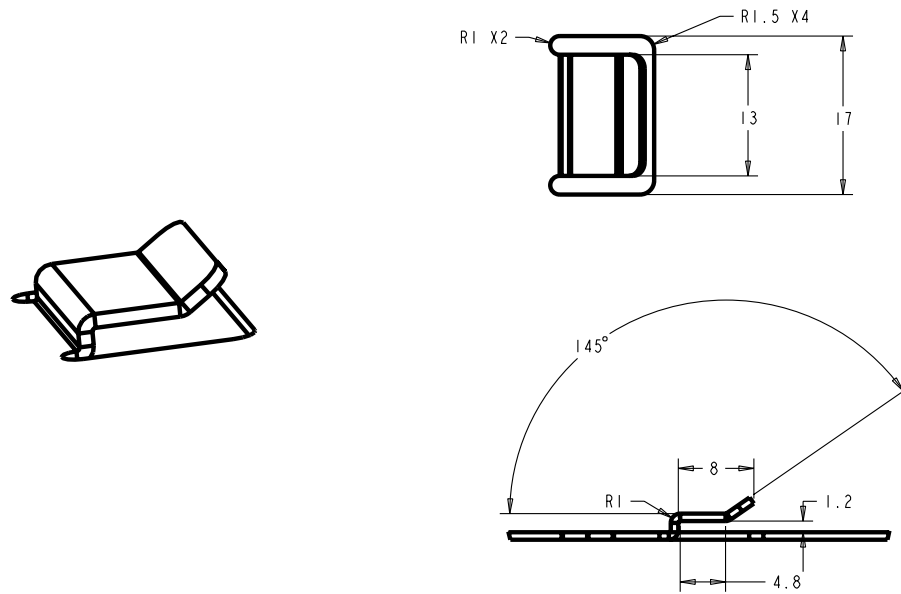

Figure 9. Suggested Mounting Tab (chassis feature)
- EITHER a mounting bracket to interface with the forward mounting hole on the power supply OR a mounting tab as shown in Figure 9 to interface with the mounting slot on the bottom of the power supply